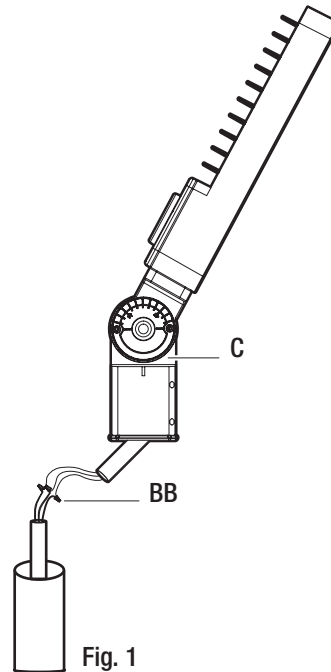

Fig. 1
- Pull the leads through the pole and the slipfitter knuckle arm (C).
- Follow the wiring instructions given on step 4A to complete the wiring and use wire nuts (BB) on the connections. (Fig. 1)